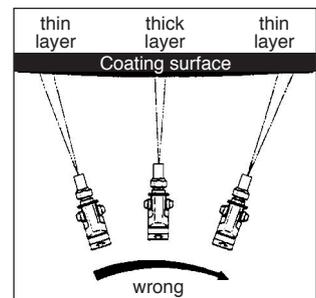

Fig. 23: Spray gun guidance
- Ensure an even speed and guide the spray gun parallel to the coating surface. Weaving with the spray gun leads to an uneven coating (see Fig. 23).